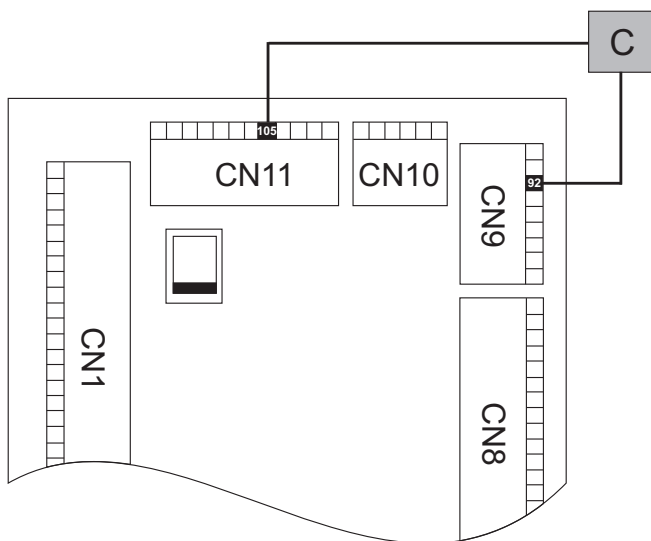

Figure 238: Using One Speed Sensor
The compromised approach (Figure 238) is to use one Speed Sensor (C) to feed both timer systems but this will result in the possibility of the Reject Timer and Reject Confirmation not functioning if the Speed Sensor develops a fault. Note that both inputs must be wired for the same sensor polarity.